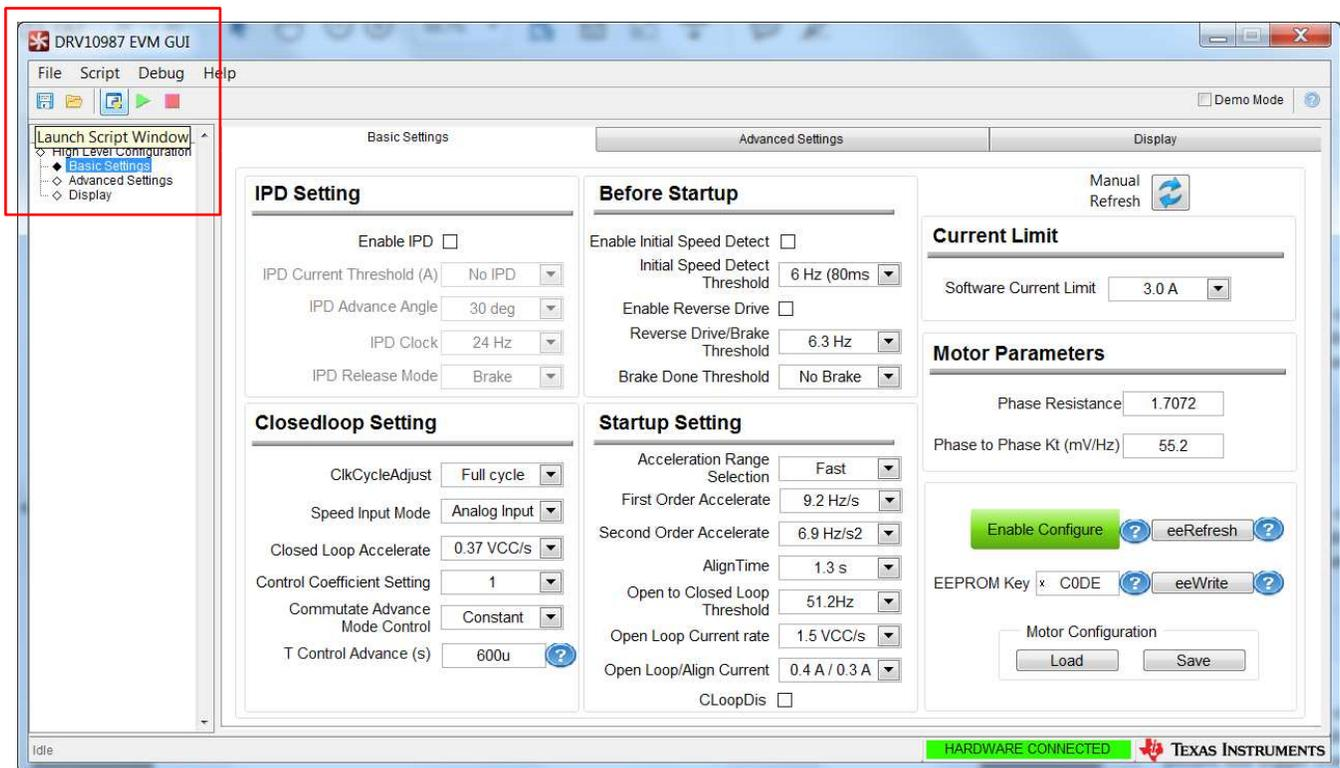

Figure 35. Script Menu
- Step 1. Go to the *Script* menu in the DRV10987 EVM GUI and select the *Launch Script* option to start recording or click the *Launch Script Window* button as shown in Figure 35.